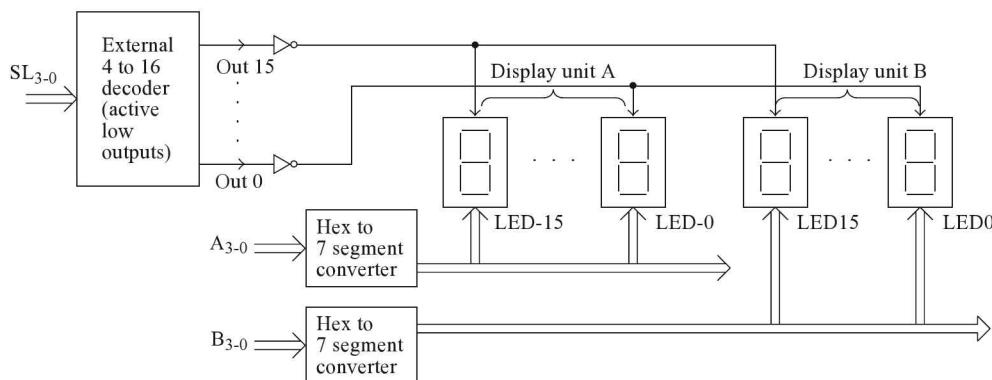

Fig. 22.21 Interfacing thirty-two 7-segment LED devices
**Display write inhibit/blanking command:** The information present in a display RAM location comes out on  $A_{3..0}$  and  $B_{3..0}$ . On  $A_{3..0}$  the MS nibble is sent out, while on  $B_{3..0}$  the LS nibble is sent out. Generally the 7-segment code is directly stored in a display RAM location. However, it is possible to treat  $A_{3..0}$  as a hex digit and  $B_{3..0}$  as another hex digit that could be displayed on two separate 7-segment displays. If the 8279 is configured for a 16-character display, it is possible to connect thirty two 7-segment display units as shown in Fig. 22.21. It makes use of two separate sets of sixteen 7-segment display units that could be called display unit A and display unit B, respectively.